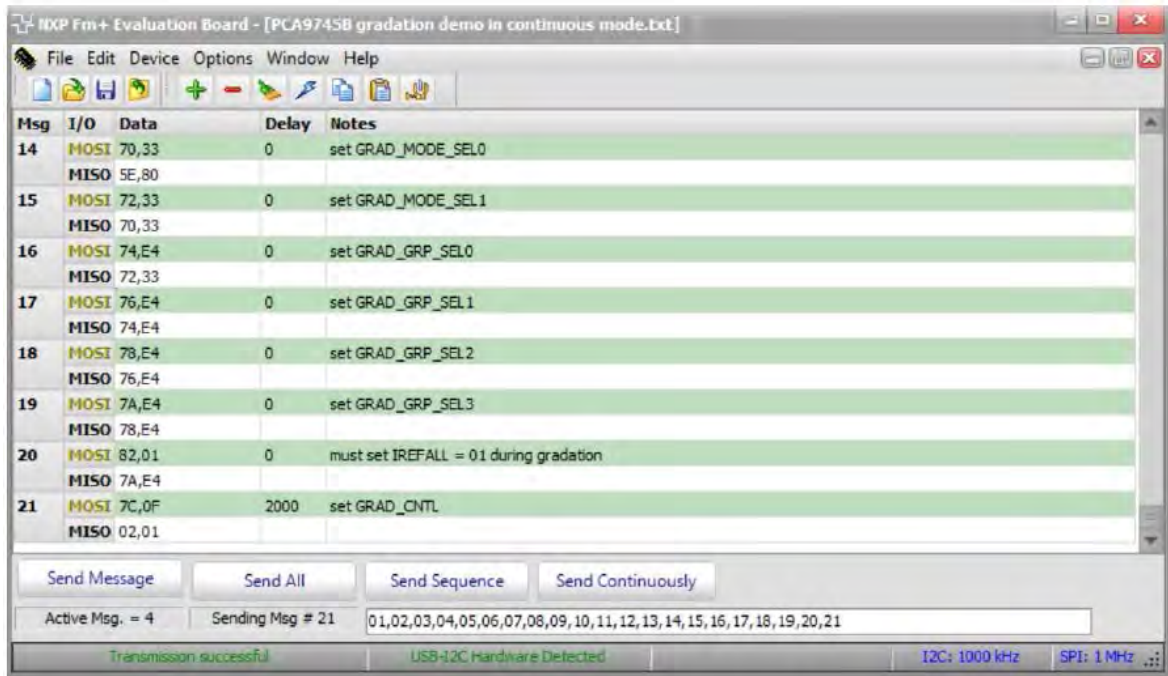

Fig 9. Message data in Expert mode to demo all white and red LEDs for gradation
3. After open the “PCA9745B gradation demo in continuous mode” text file, the “NXP Fm+ Board GUI” in Expert mode screen will be displayed as shown in Fig 9.
5. User can program the MOSI (Master Out Slave In) Data to PCA9745B, the first 7-bit is to access the address of register and 8th bit to indicate Read (1) or Write (0), the next byte is data to read or write.